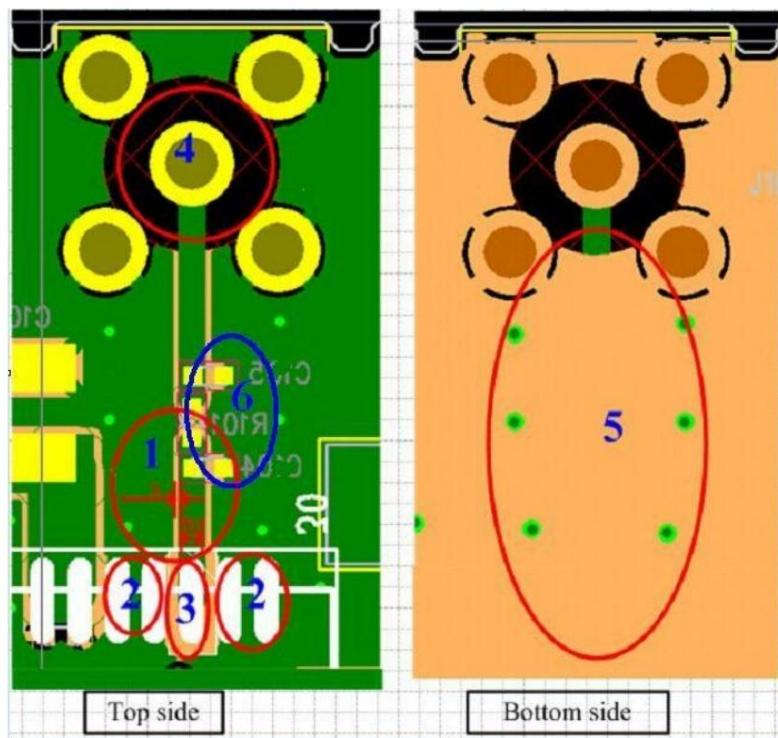

Figure 6: PCB LAYOUT
1. Control the line width W and spacing S corresponding to the 50 ohm coplanar waveguide. Take the common PCB board as FR4 medium (dielectric constant is 4.2) and the copper thickness is 35um as an example, the line width and ground clearance corresponding to the thickness between different signal layers and reference ground are shown in Table 1. It is especially reminded that the PCB board factory needs to control the precision of the line width W and the ground clearance S on both sides. 2. The ground PIN is not used as a thermal pad, and should be in full contact with the ground. 3. The surface layer is slightly forbidden to reduce parasitic effects. The RF line should be as short as possible, and it is best to avoid right-angle routing. It is recommended to go 135 degrees if there is a corner. 4. When connecting the device package, pay attention to keep the signal pins at a certain distance from the ground, please refer to Figure 6. If it is a mounted pad, dig the ground under the corresponding signal pin pad. 5. Ensure that the reference ground corresponding to the RF line is complete, add ground holes to help RF return, and keep at least 2 ground holes and signal lines.